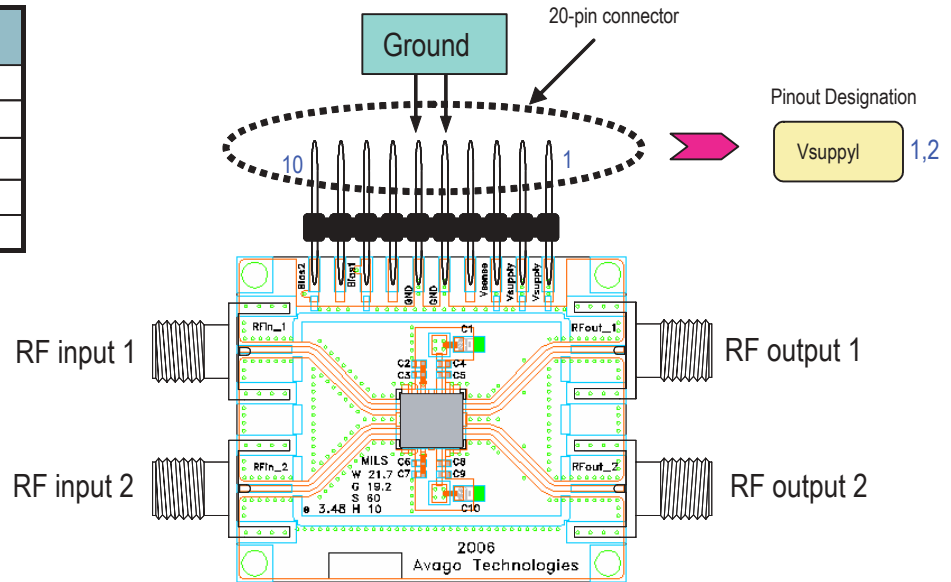

Figure 5. Demo Board Layout Diagram
$T_A = 25\text{ }^\circ\text{C}$, $V_{dd} = 5\text{V}$ @ 280mA , RF performance at 2.0 GHz, given for each of the 2 RF paths, measured on demo board (see Fig. 5) unless otherwise specified.
- Measurements at 2GHz obtained using demo board described in Fig 5.